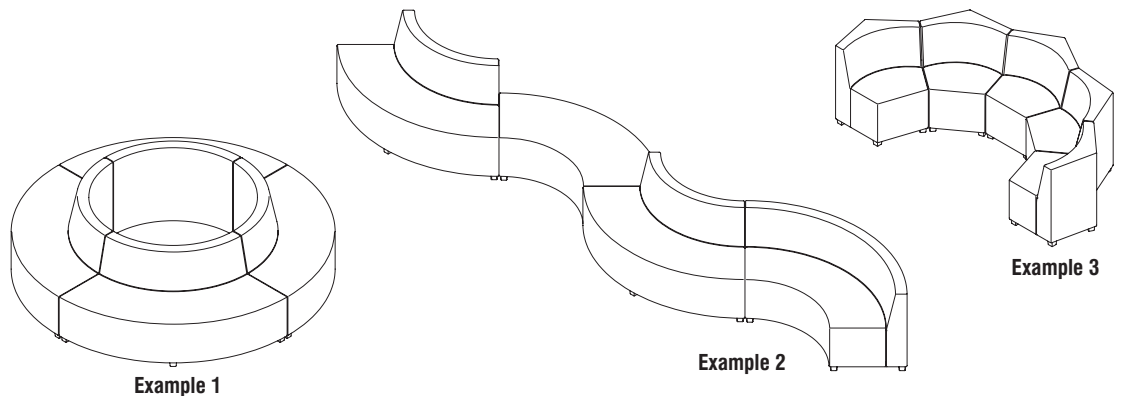

Figure 1
1. Move the two adjoining backless or 32" low-back lounge units together in the intended configuration, at or near their final installation location. Reference assembled configuration examples 1 through 3 shown (Figure 1).